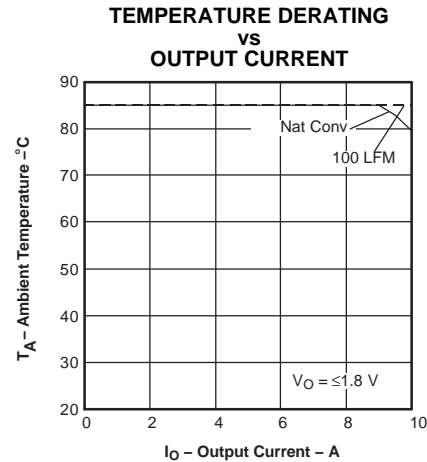

Figure 8.
- (2) SOA graphs represent the conditions at which internal components are at or below the manufacturer's maximum operating temperatures. Derating limits apply to modules soldered directly to a 4 in. x 4 in., double-sided PCB with 1 oz copper. For surface mount products (AS and AZ suffix), multiple vias (plated through holes) are required to add thermal paths around the power pins. Please refer to the mechanical specification for more information. Applies to Figure 8.
- (3) The peak-to-peak output ripple voltage is measure with an external 10  $\mu\text{F}$  ceramic capacitor on the output.